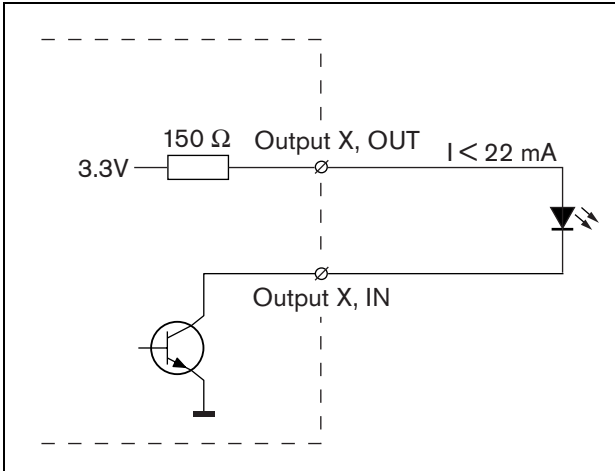

figure 19.4: Internally powered LED
- Internally powered lamp or LED. See figure 19.4 for a connection diagram.